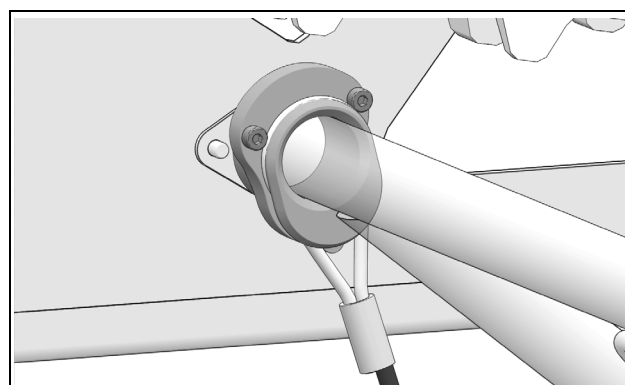

Figure 22
- **Position longue :** conditions de surface dure. Figure 22.